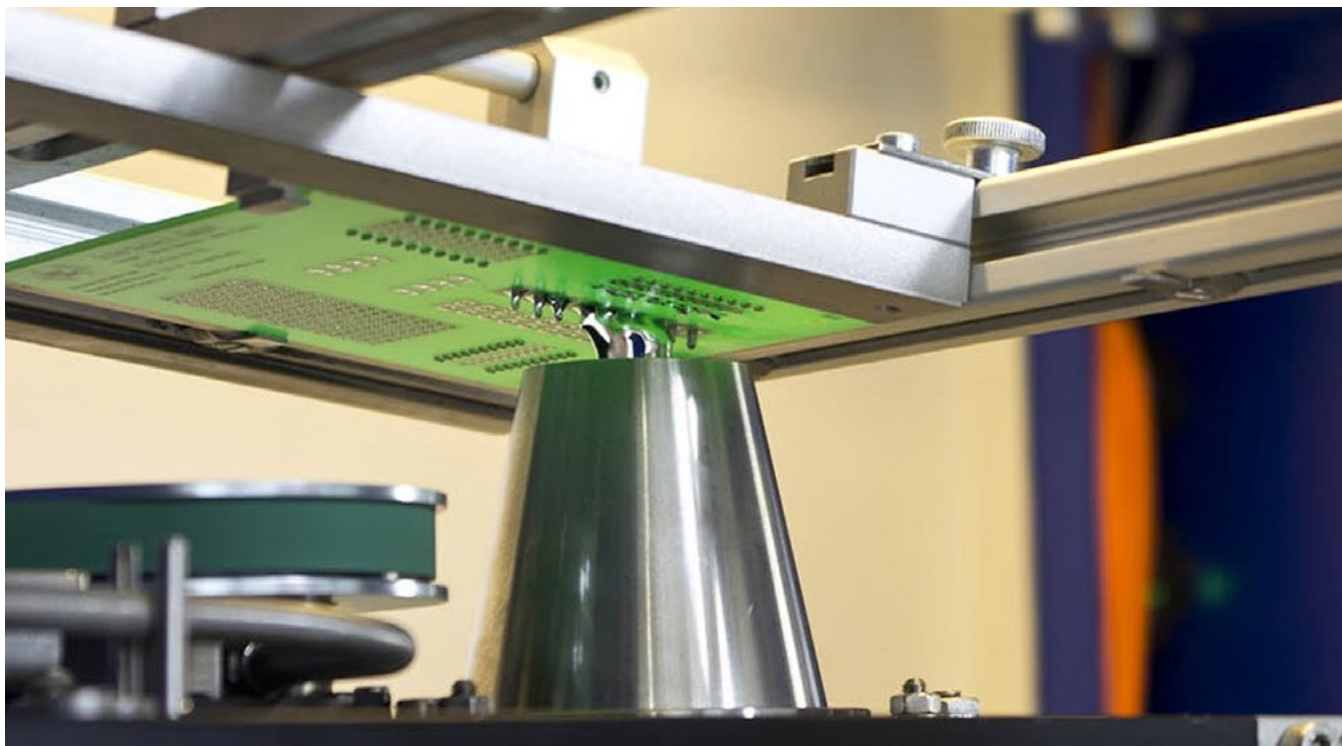

Figure 5: Solder application, viewed from under the circuit board.
- We found examples where the component manufacturer may declare that the component conforms to a standard, but in reality some of the dimensions are outside the tolerances set by the standard. Figure 5 shows one